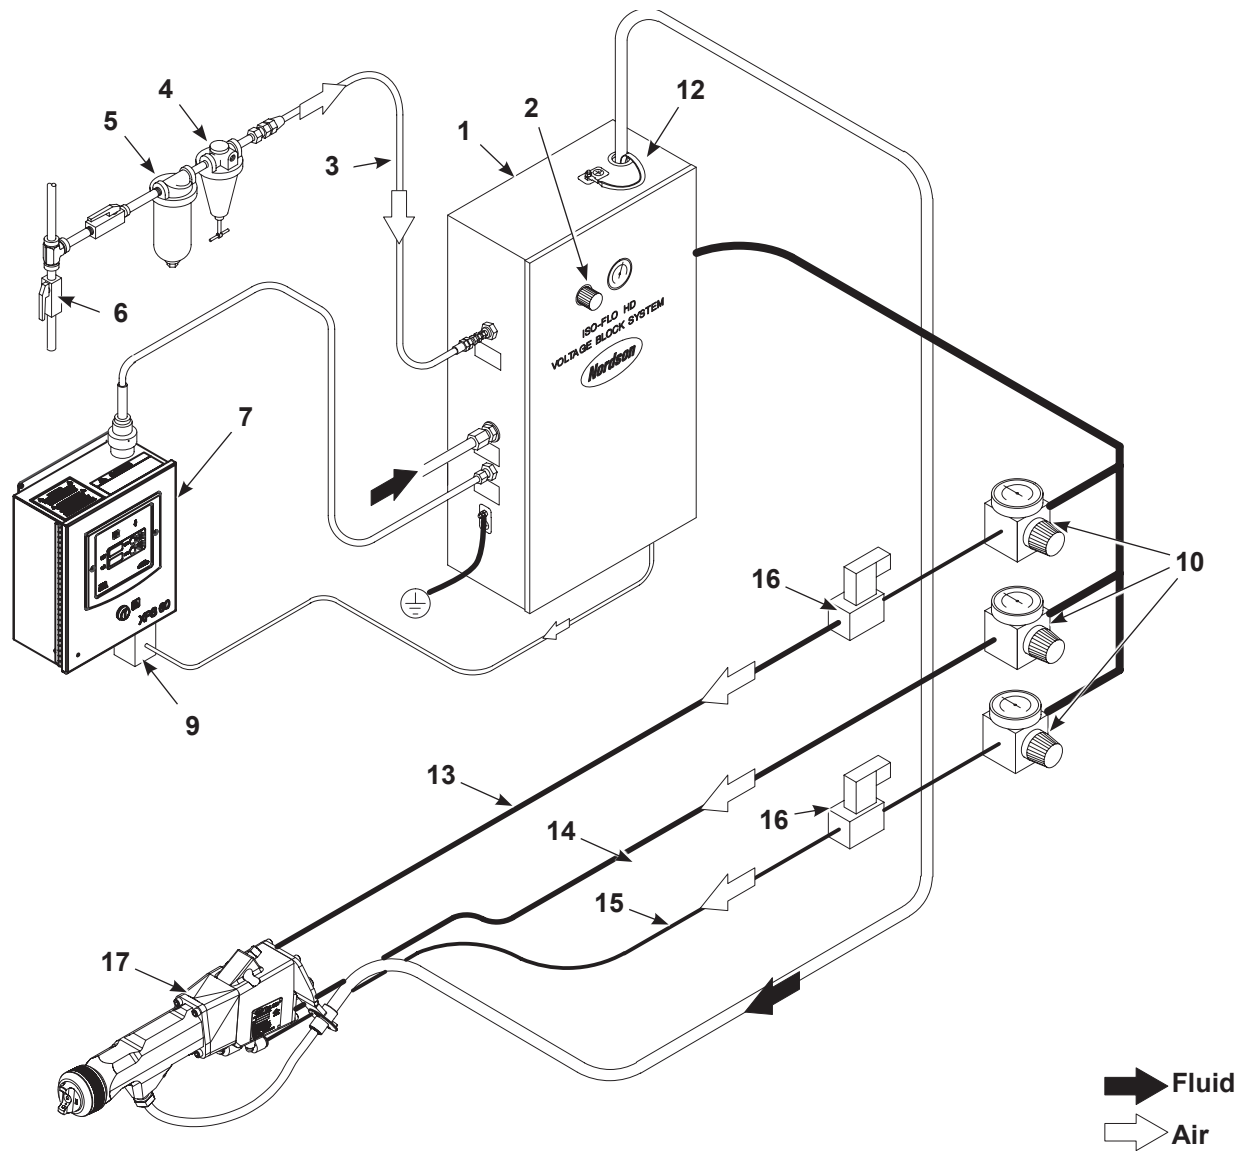

Figure 3-1 Typical 60 kV Waterborne Automatic System
Figure 3-1 shows the components of a typical electrostatic waterborne system. The fluid is electrostatically charged before it is delivered to the spray gun.
See Figure 3-1. Feed the end of the fluid hose (11) through the grommated hole in the Iso-Flo cabinet labeled PAINT OUTLET and connect the hose to the fluid outlet fitting, or to a fluid regulator installed on the fitting, inside the cabinet. Connect the hose ground strap (12) to the ground stud next to the paint outlet hole.